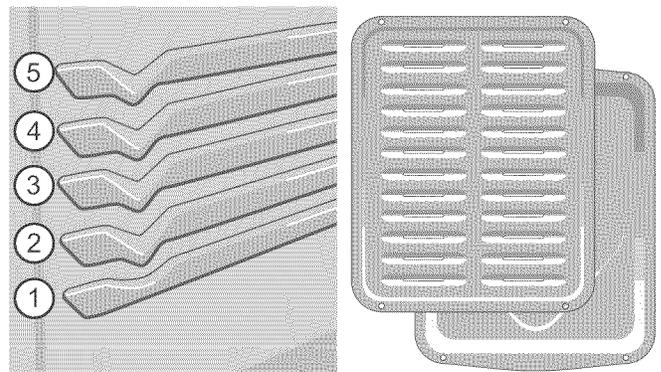

Figure 27: Rack positions (L) Optional broil pan and insert (R)
2. Position bakeware in oven to the preferred rack position. (Figure 27).